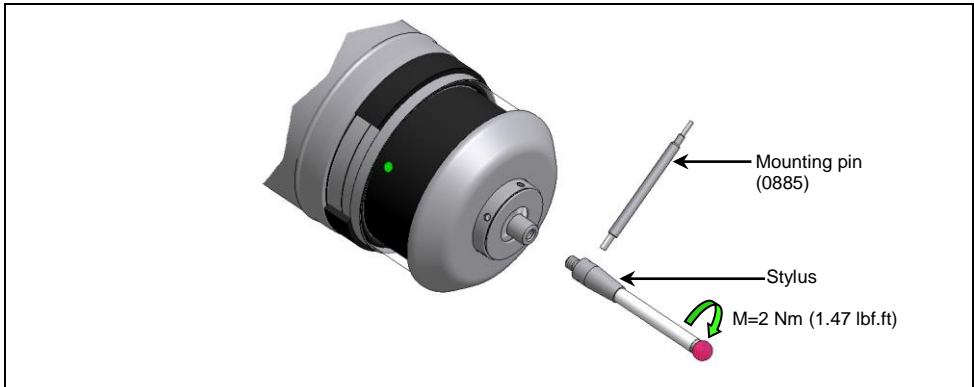

Fig. 9 Stylus change with measuring unit PP41.00
2. Carefully screw the new stylus with mounting pin into the touch probe (Fig. 9).